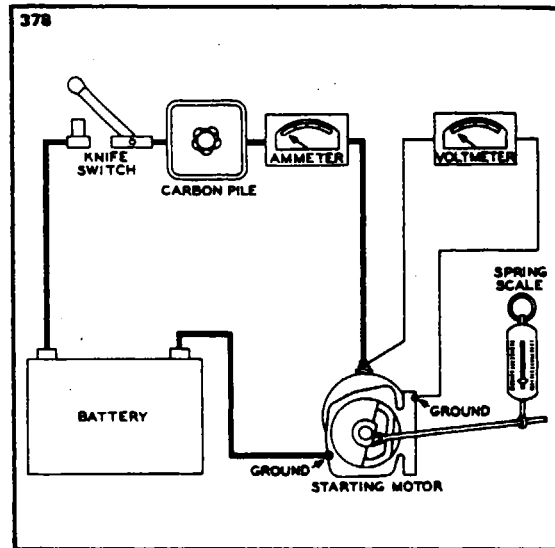

Figure 11-65. Stall-Torque Hook-up
- b. If no difficulty is indicated in the above test, a stall torque test may be made to see if the starting motor is producing its rated cranking power. Make test connections as shown in Figure 11-65.